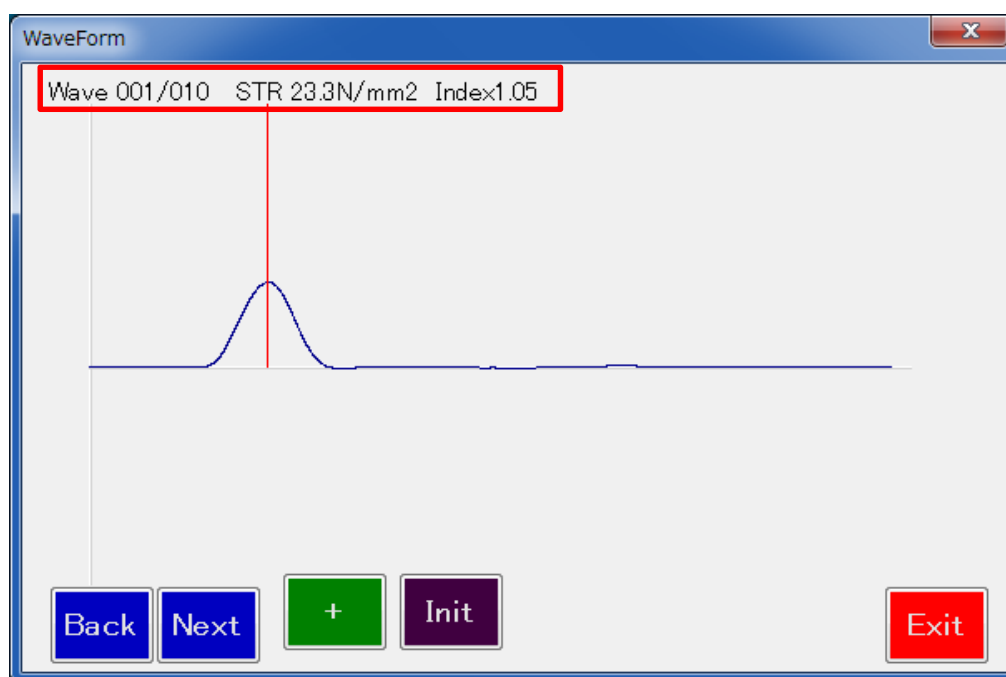

Fig.4-10 Dialog of Displaying Waveform
- When clicking [Show Wave Form] button ⑤, dialog of displaying waveform is appeared as shown in Fig.4-10.
- The measured waveform number, estimated strength value and Index value are displayed at the top of the dialog (shown in red box of Fig.4-10).